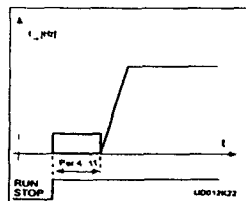

Figure 2-5-25 DC-braking time at start
- >0 The DC-brake is activated by the start command given. This parameter defines the time before the brake is released. After the brake is released the output frequency increases according to the set start function parameter 4-6 and the acceleration parameters (1-3-4-1 or 4-2-4-3). See figure 2-5-25.